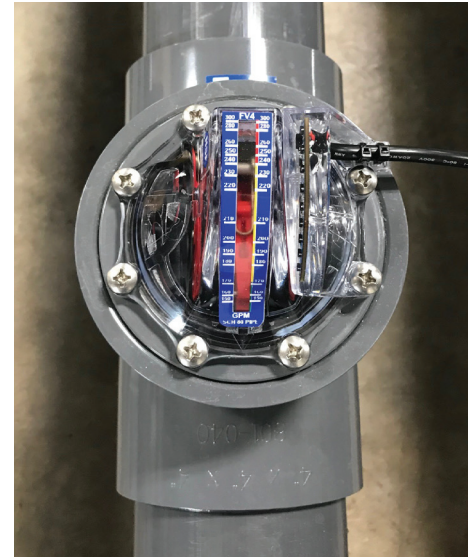

Fig 1.6
6. Referring to Fig.1.6 (right), identify the required side of the FlowVis to mount the FlowVis sensor, ensuring that the sensor is fully seated and the screw holes line-up with those on the FlowVis lid assembly.
2. Unless previously done in section 6.2, remove the two FlowVis lid screws that will align with the hole mounting tabs for the sensor (refer to Fig.1.6 on pg. 6).
3. Mount the sensor, ensuring that it is fully seated and the screw holes line-up with those on the FlowVis lid assembly (see Fig.1.6).